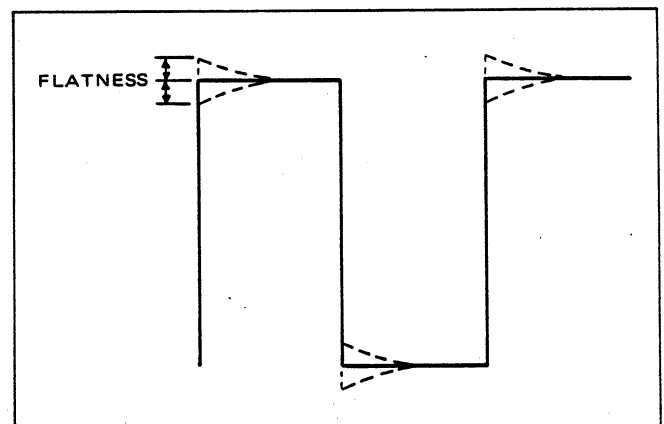

Figure 5.4 - Square Wave Signal
- With the oscilloscope, monitor pin 8 of U3 and adjust C6 (both on the channel A signal conditioner) for a waveform flatness within  $\pm 40$  mV. Refer to waveform shown in figure 5.4.